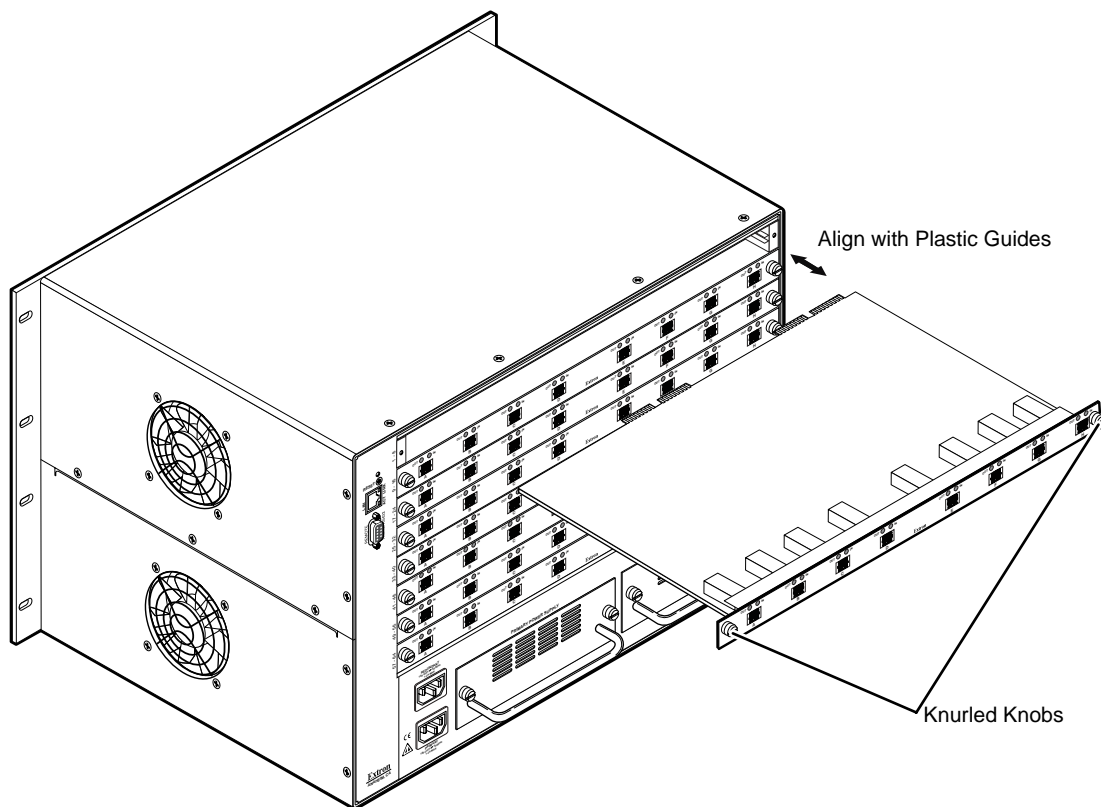

Figure 7-2 — I/O board replacement
4. Slide the board or panel out of the chassis (figure 7-2).
2. **For an I/O board**, align the board with the left and right chassis guides (figure 7-2).